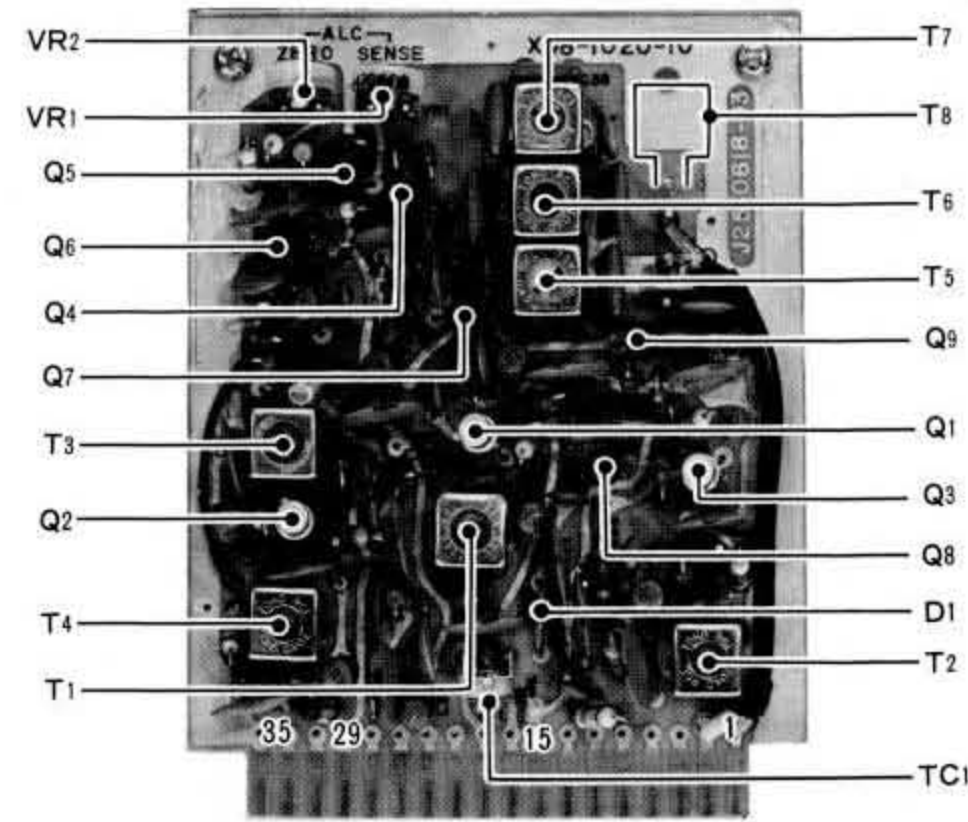

FIGURE 24. MIX Board
5.8 MIX (Mixer) BOARD (X48-1020-10) (See Figure 24)